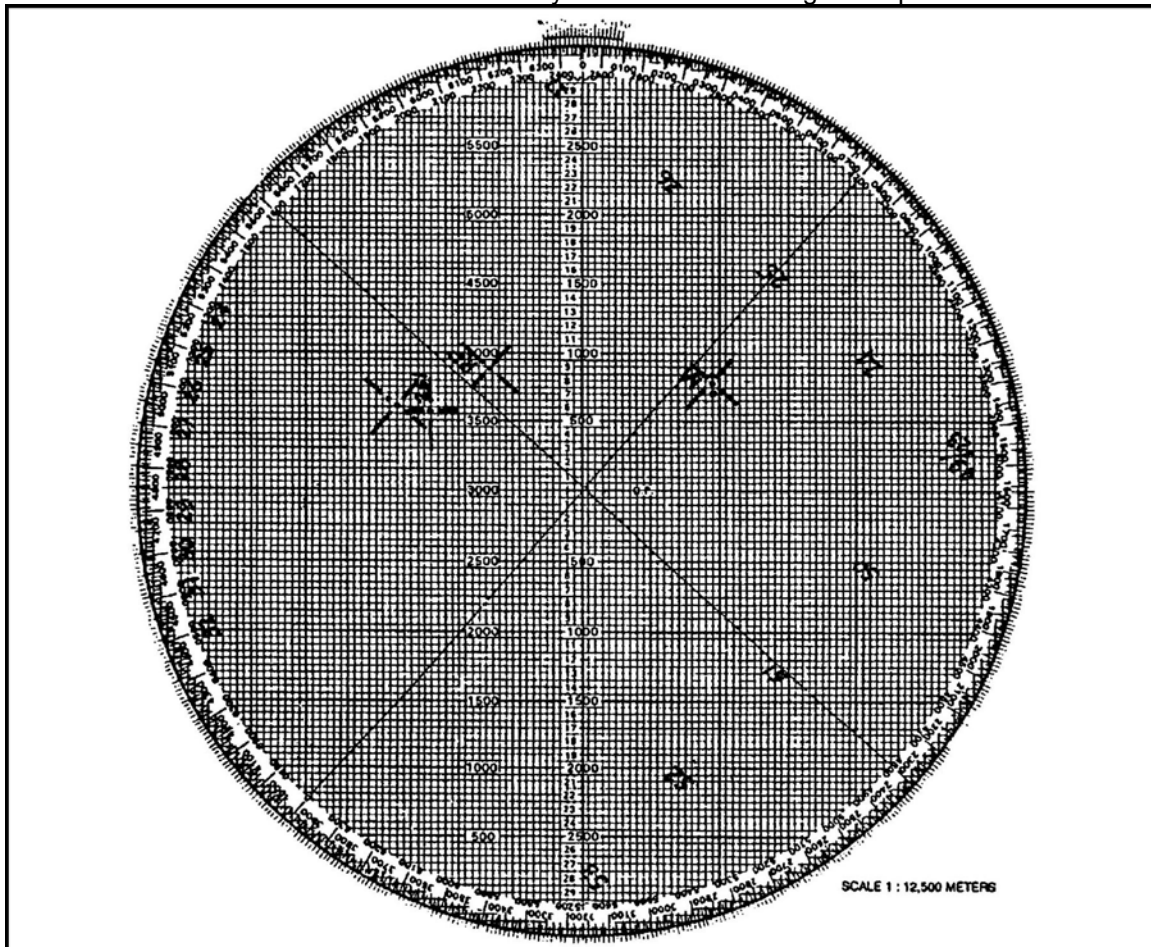

Figure 4. Plotting of No. 1, 3, and 4 mortars.
- (3) To plot the mortars--
- To plot the No. 1 and 3 mortars, go 40 meters above (toward the top of the board) and 40 meters below (toward the bottom of the board) the No. 2 mortar plot and make small plots at those points to represent the No. 1 and 3 mortars. To plot the No. 4 mortar, go 80 meters below the No. 2 mortar plot (towards the bottom of the board) and make a small plot to represent the No. 4 mortar (Figure 4). Erase the arms of the hollow cross if they interfere with making those plots.